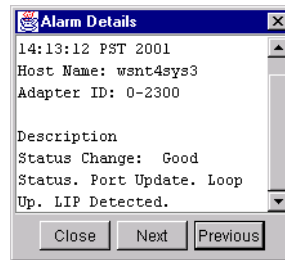

Figure 8-7. Alarm Details Dialog Box
3. To view an individual alarm, double-click the alarm. The **Alarm Details** dialog box displays (see figure 8-7).